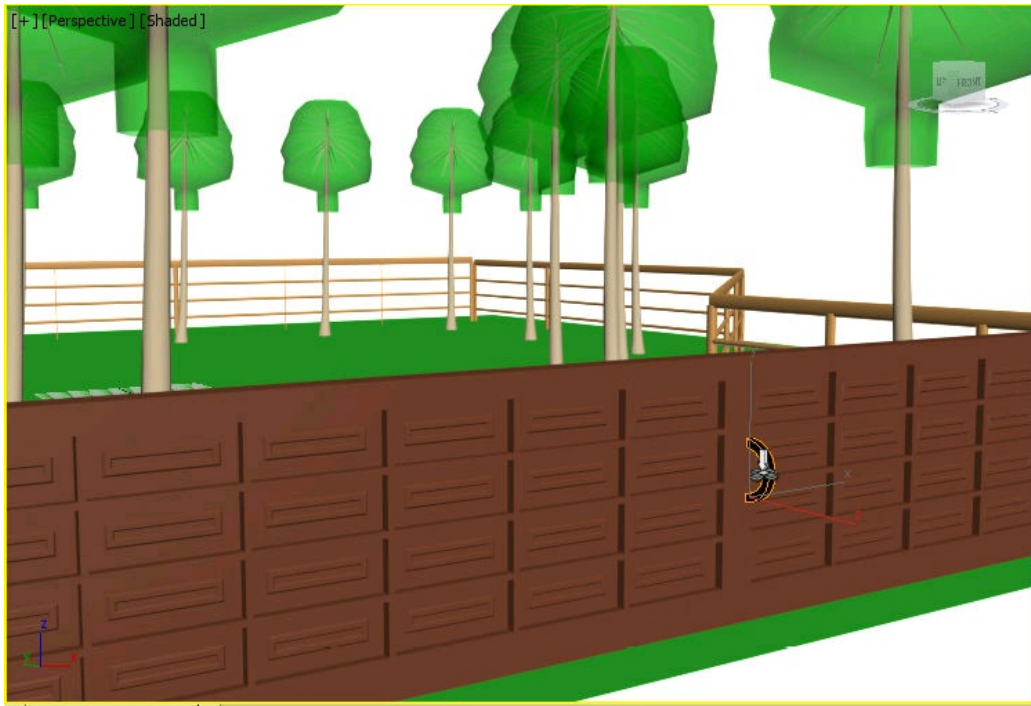

Figure 4-68 *The handle1 geometry aligned*
21. Activate the Perspective viewport. Next, align *handle1* using the **Select and Place** tool, as shown in Figure 4-68.